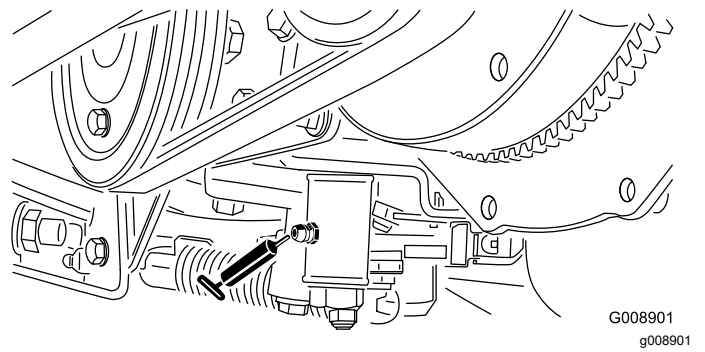

Figure 39
- Neutral-adjustment mechanism (Figure 39)